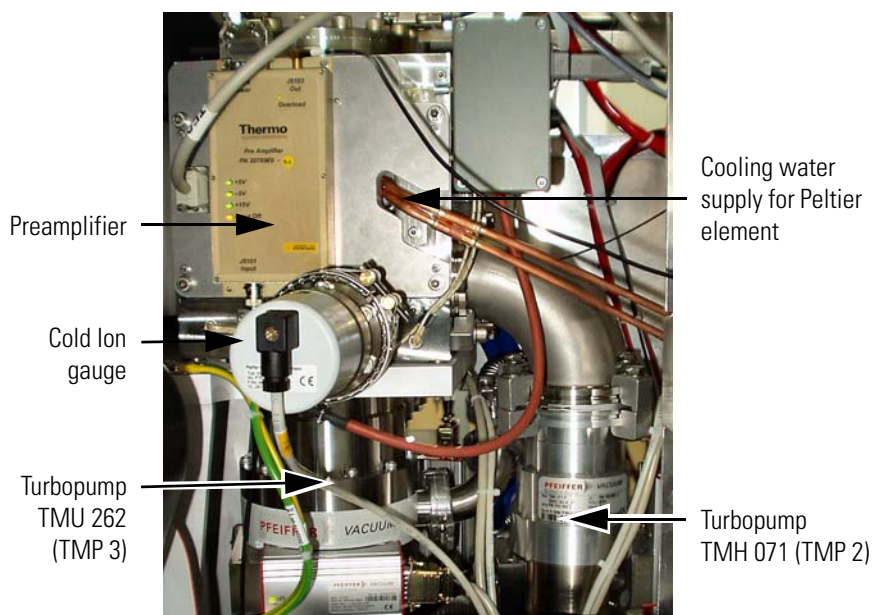

Figure 1-16. Vacuum components at the UHV chamber (right instrument side)
The UHV chamber is evacuated down to 10^{-8} mbar pressure range by a 60 L/s UHV turbopump (TMP 2, see Figure 1-16).
The Orbitrap itself is separated from the UHV chamber by differential apertures and is evacuated down to 10^{-10} mbar by a 210 L/s turbopump (TMP 3, see Figure 1-16 on page 1-19). All turbopumps are equipped with TC 100 control units (manufacturer: Pfeiffer).
- The high vacuum of the LTQ Orbitrap MS instrument is monitored by a Cold Ion Gauge (IKR 270, manufacturer: Pfeiffer) connected to the UHV chamber. See Figure 1-16 on page 1-19. Since the gauge would be contaminated at higher pressures, it is only turned on when the forevacuum has fallen below a safety threshold ($<10^{-2}$ mbar).